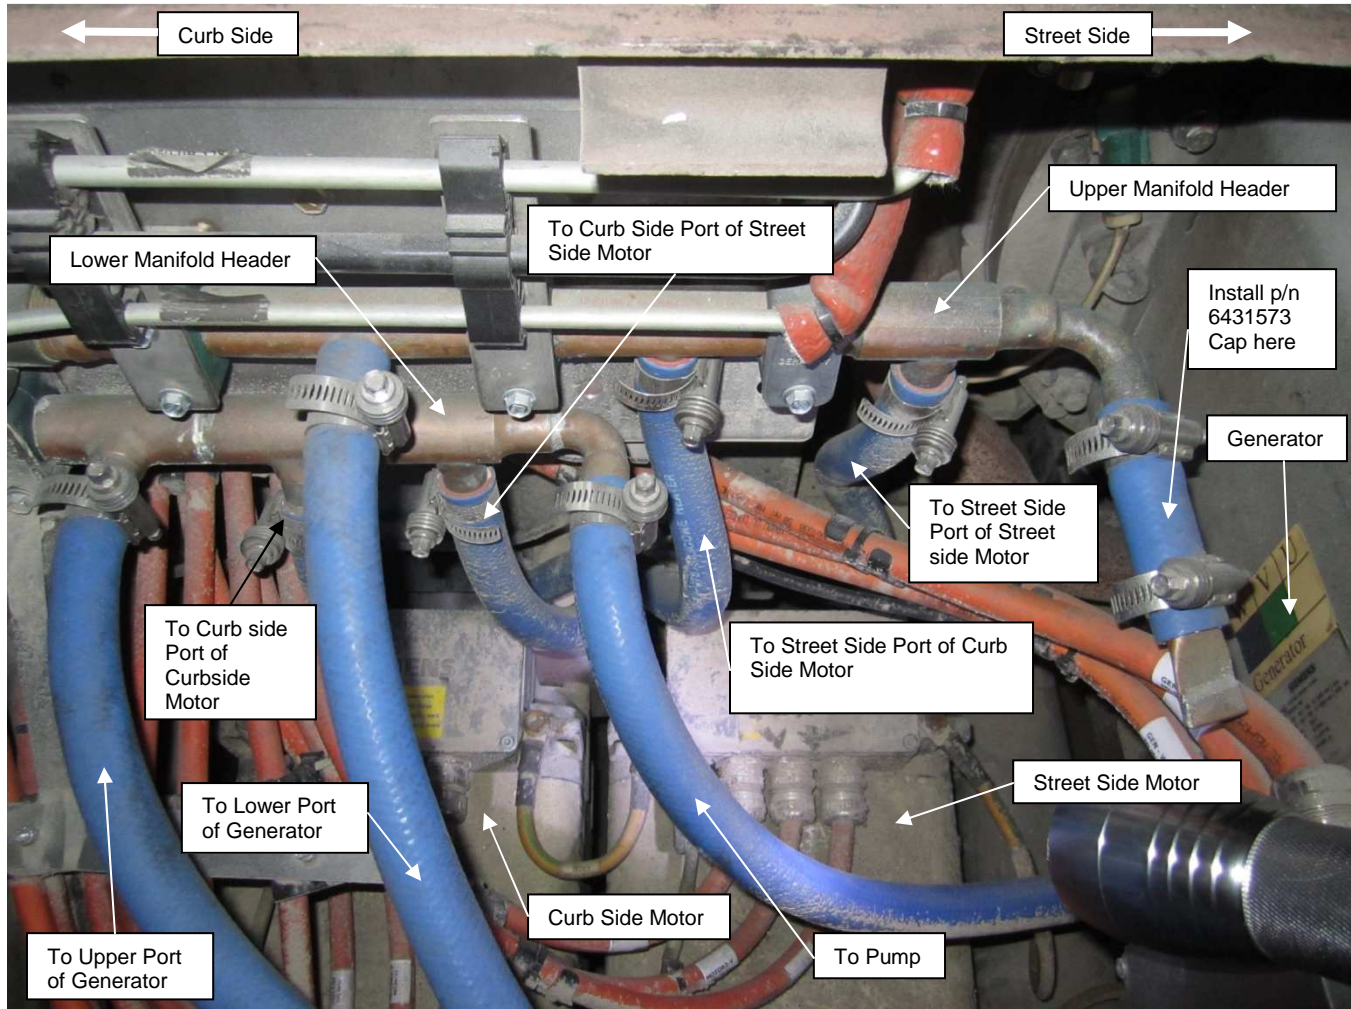

Figure 2: Hose Layout on Upper/Lower Manifold Headers
4. Locate the upper and lower coolant manifolds, generator and two electric drive motors. Figure 2.
5. Check to ensure that upper manifold header and components are plumbed as follows: Figure 2.
6. Check to ensure that lower manifold header and components are plumbed as follows: Figure 2.
9. If the hose layout at the upper and lower manifold headers does not match Figure 2 and or the bypass hose is present, the hoses will have to be reconfigured.
- b. Change the hose connections as necessary to match the configuration shown in Figure 2. Use $\frac{3}{4}$ " hose NF P/N 106197 and hose clamps NF P/N 274935 as needed. Torque hose clamps to 56-62 IN-LBS.
10. Locate the street side branch of the upper manifold. Figure 2.